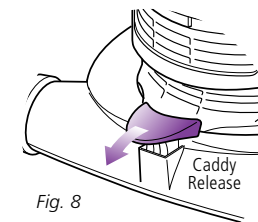

Fig. 8
- 8 To release the vacuum from the caddy, press caddy release button and lift the vacuum up. (fig. 8)